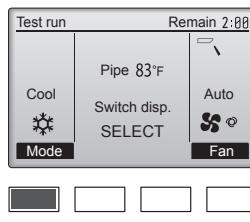

Fig. 6-5
① Press the [F1] button to go through the operation modes in the order of "Cool" and "Heat". (Fig. 6-5)